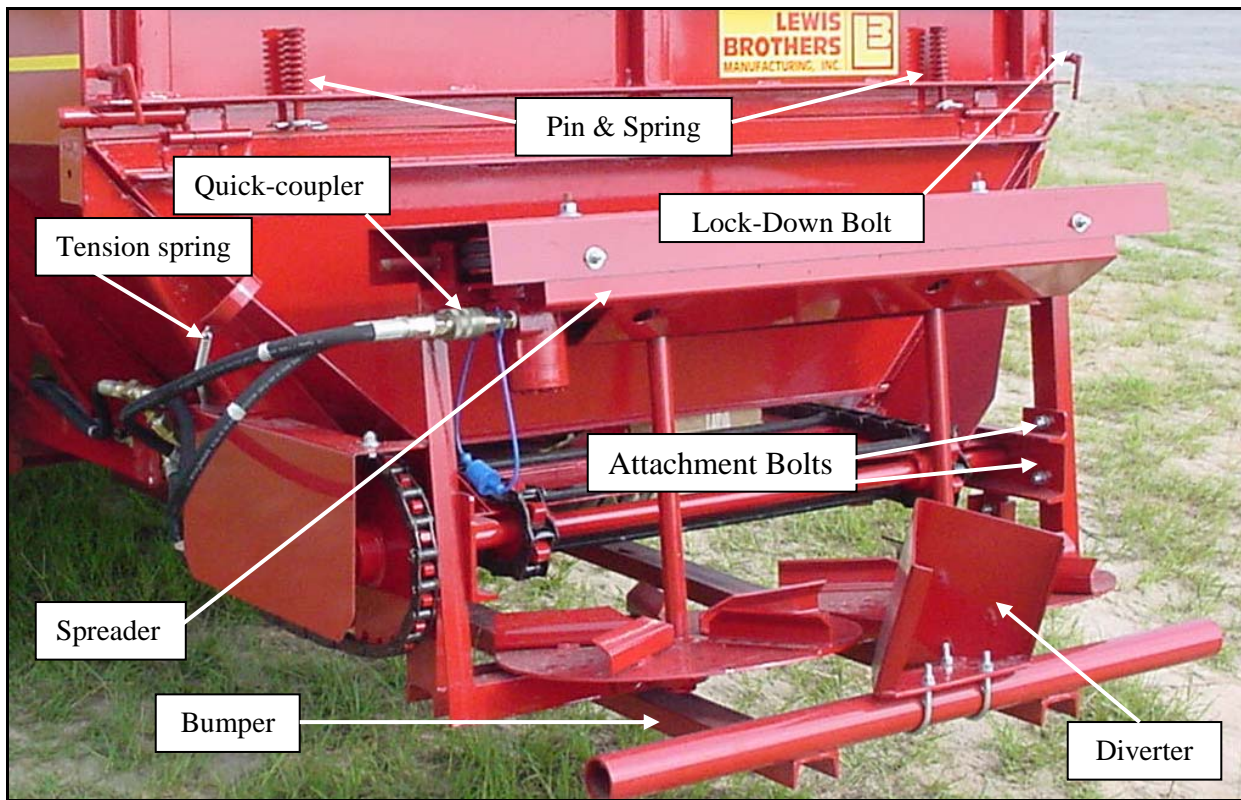
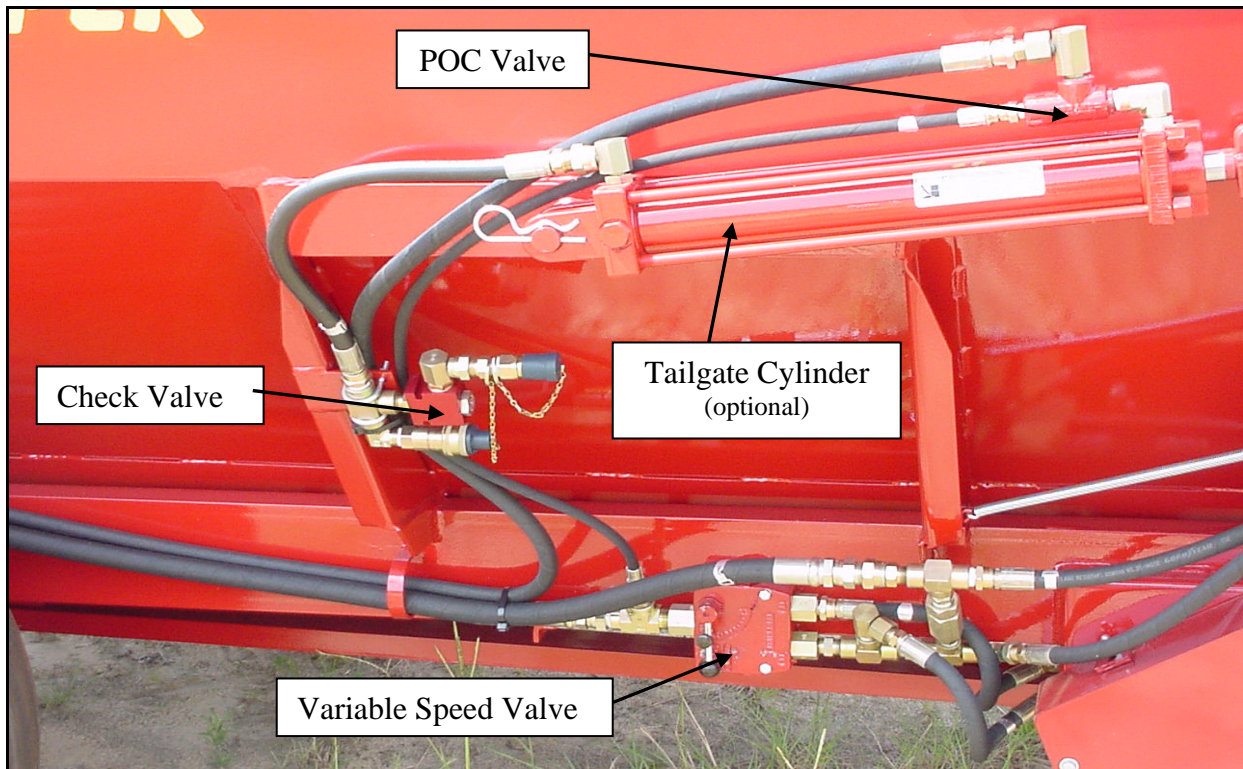

Figure 4
Figure 5
1. The spreader unit comes pre-assembled and is attached to the main frame of the Housekeeper using four 1/2"x1-1/2" inch bolts.(see figure 4)
2. Locate the hydraulic 'quick-coupler' attached to the base end of the tailgate cylinder and uncouple the fittings from the coupling block (see fig. 5). Connect the two ends to the matching fittings on the hydraulic motor located on the spreader assembly (see figure 4).
The distribution pattern is influenced by the location of the diverter attached to the rear bumper. Best results are achieved when the diverter is positioned at approximately 45 degrees. (See Figure 4)